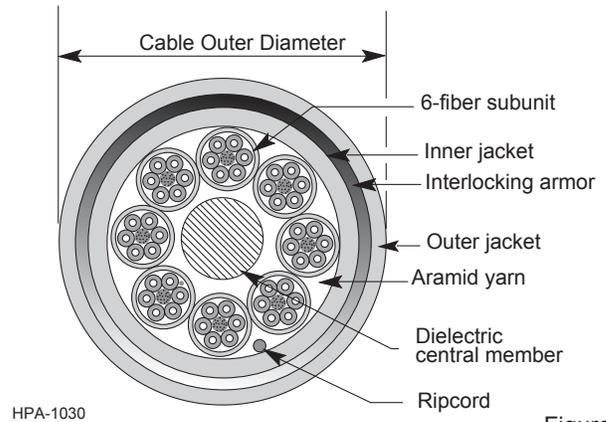

Figure 13
**5.1** Prior to installation, the proper size grip must be chosen for the cable to be pulled. Grip selection is based on the outside diameter of the cable (Figure 13).